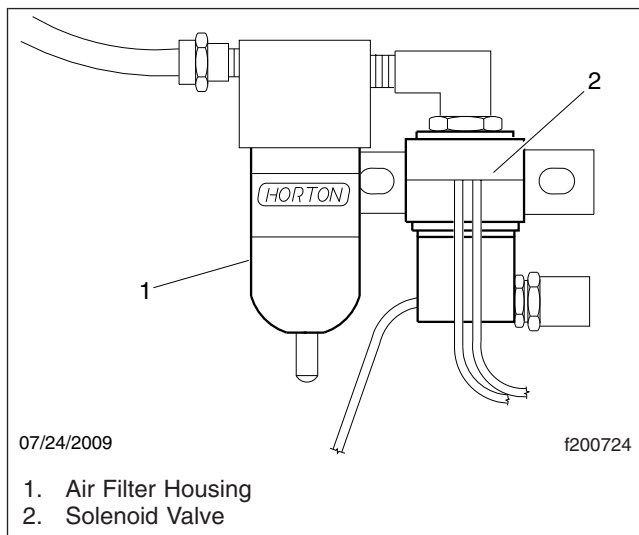

Fig. 6, Horton DriveMaster Air Solenoid Valve
2. Inspect the electrical connections and wires to the fan clutch solenoid; see **Fig. 6**. Secure the connection if loose; replace wires and connectors if damaged.